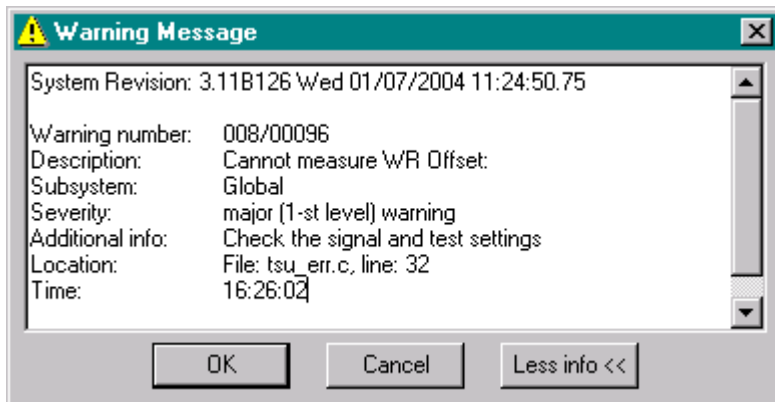

Figure 16 Error / Warning Dialog Box
3. If the *Errors at The Test End* check box is enabled in the *Configure | Test Options...* dialog box, the full information on every error is included to the detailed error output, which is shown in the *More Info* mode of the standard WITE32 error message box (see Figure 16 above). In previous versions of WITE32, only the basic error information is shown in the *More Info* mode when the *Errors at The Test End* option is enabled.